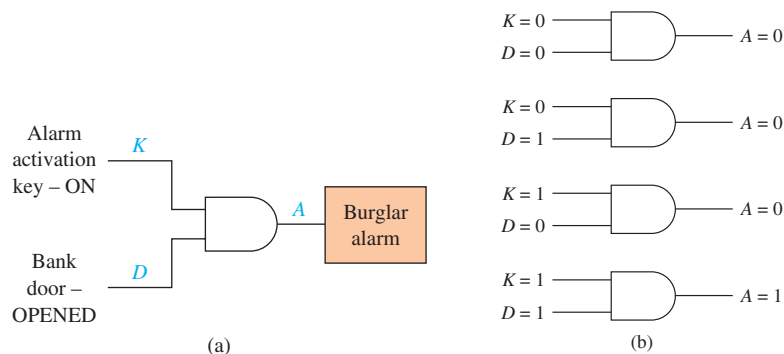

Figure 2 AND gate: (a) Used to activate a burglar alarm; (b) all combinations of key ON (K) and door OPEN (D).
One example of how an AND gate might be used is in a bank burglar alarm system. The output of the AND gate will go HIGH to turn on the alarm if the alarm activation key is in the ON position AND the front door is opened. This setup is illustrated in Figure 2(a). Figure 2(b) shows the result for every combination of Key (K) and Door (D).